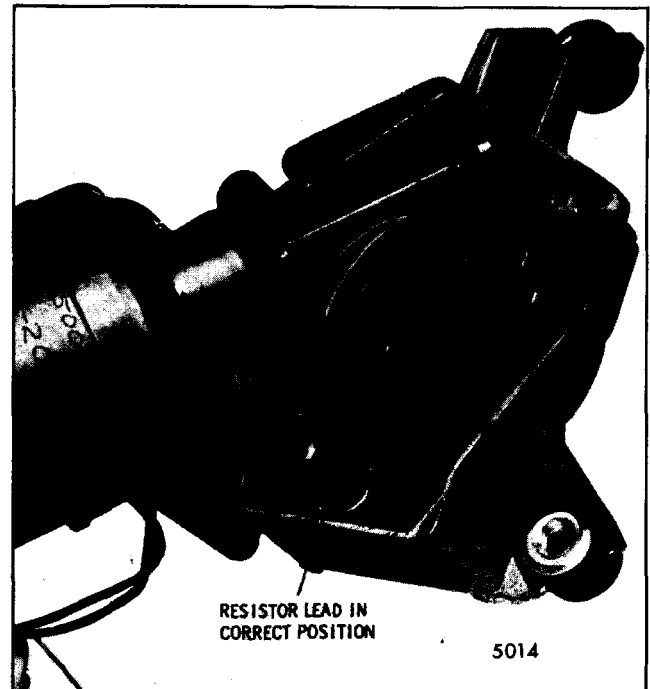

Fig. 2-39-Positioning Resistor Lead
1. Check for open 20 ohm resistor and the resistor ground connection (Fig. 2-39).
2. Slide terminal board into wiper housing being careful to position the terminal board resistor lead as shown in Fig. 2-39.